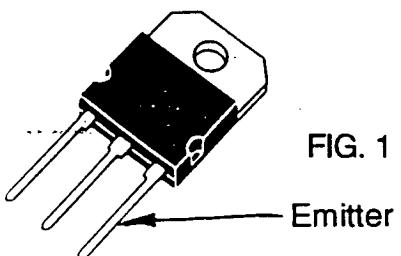

FIG. 1
8. Connect the voltmeter's positive (+) probe to the emitter leg of Q2. Connect the negative (-) probe of the DVM to the emitter leg of Q3. The emitter is the rightmost leg on these transistors when their bare metal tabs are pointing up (see Fig. 1).
10. Connect the voltmeter's positive (+) probe to the emitter leg of Q6. Connect the negative (-) probe of the DVM to the emitter leg of Q7. The emitter is the rightmost leg on these transistors when their bare metal tabs are pointing up (see Fig. 1).
12. Connect the voltmeter's positive (+) probe to the emitter leg of Q10. Connect the negative (-) probe of the DVM to the emitter leg of Q11. The emitter is the rightmost leg on these transistors when their bare metal tabs are pointing up (see Fig. 1).
14. Connect the voltmeter's positive (+) probe to the emitter leg of Q14. Connect the negative (-) probe of the DVM to the emitter leg of Q15. The emitter is the rightmost leg on these transistors when their bare metal tabs are pointing up (see Fig. 1).